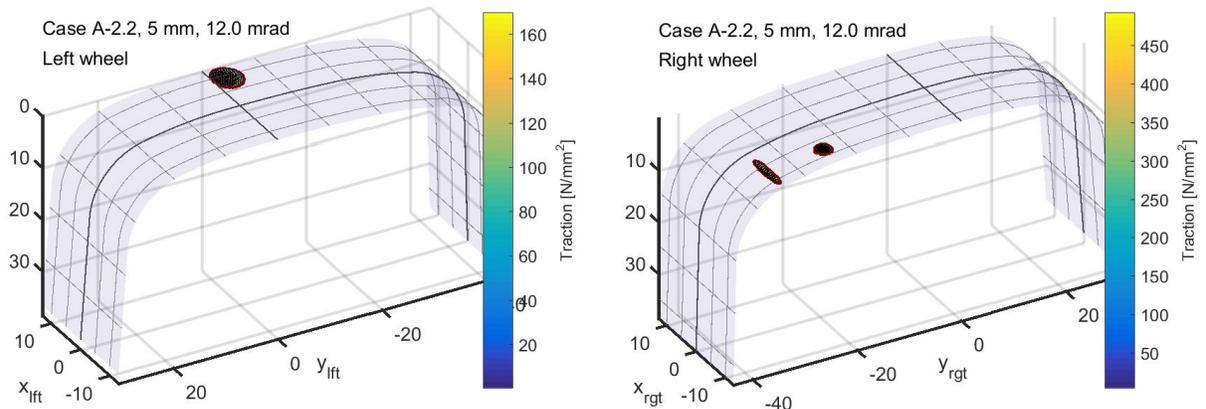

Figure 1: *Results of the new w/r contact module for the Manchester benchmark example: steering to the right with 12.0 mrad yaw and 5 mm lateral displacement.*
- The automated processing of wheel and rail profiles has been improved and is provided now in the CONTACT library also (Figure 1).